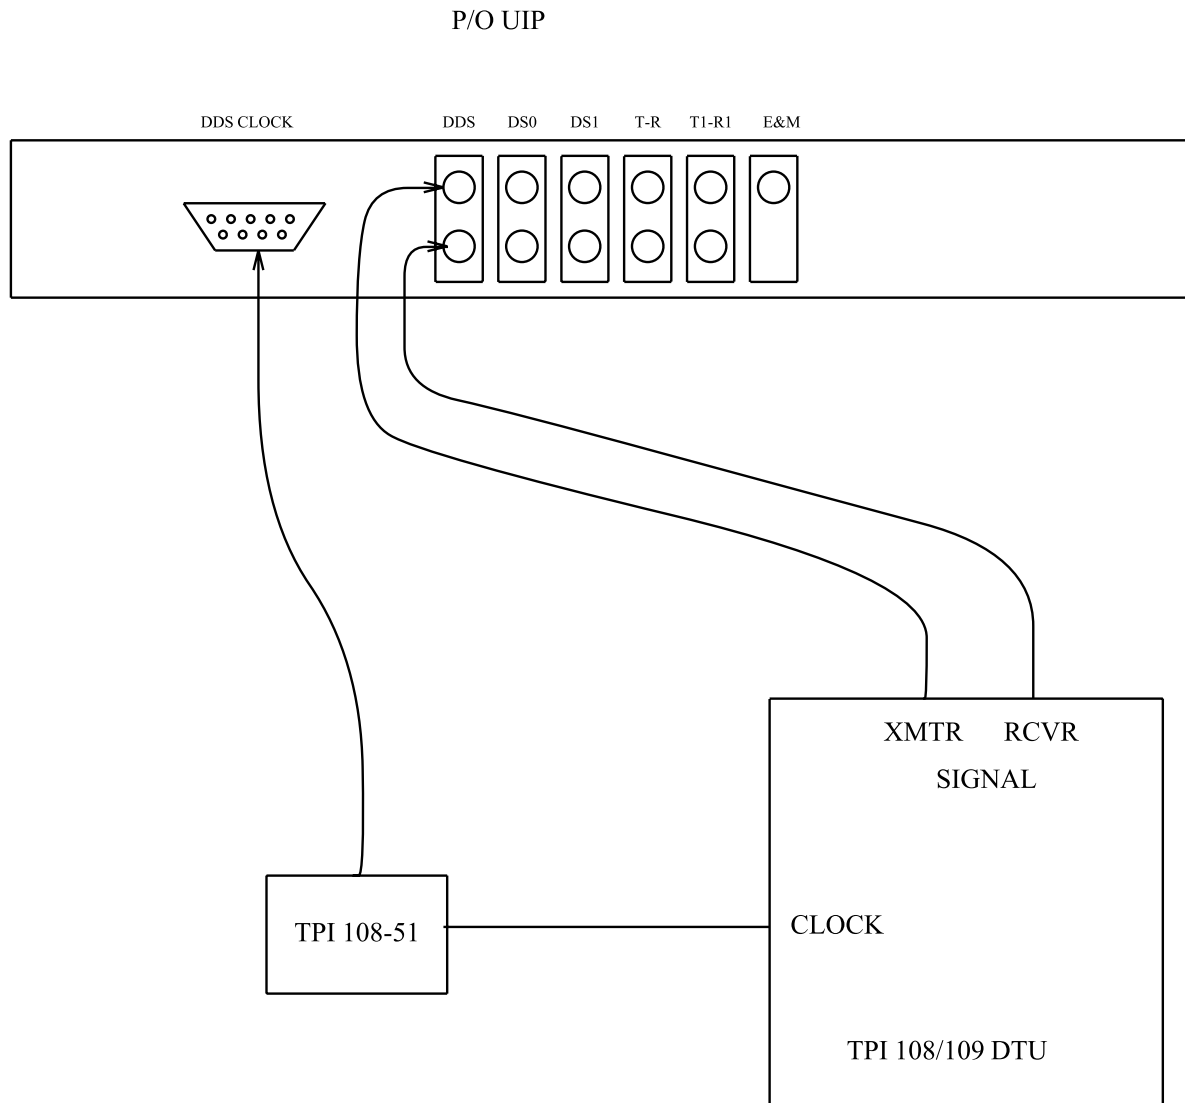
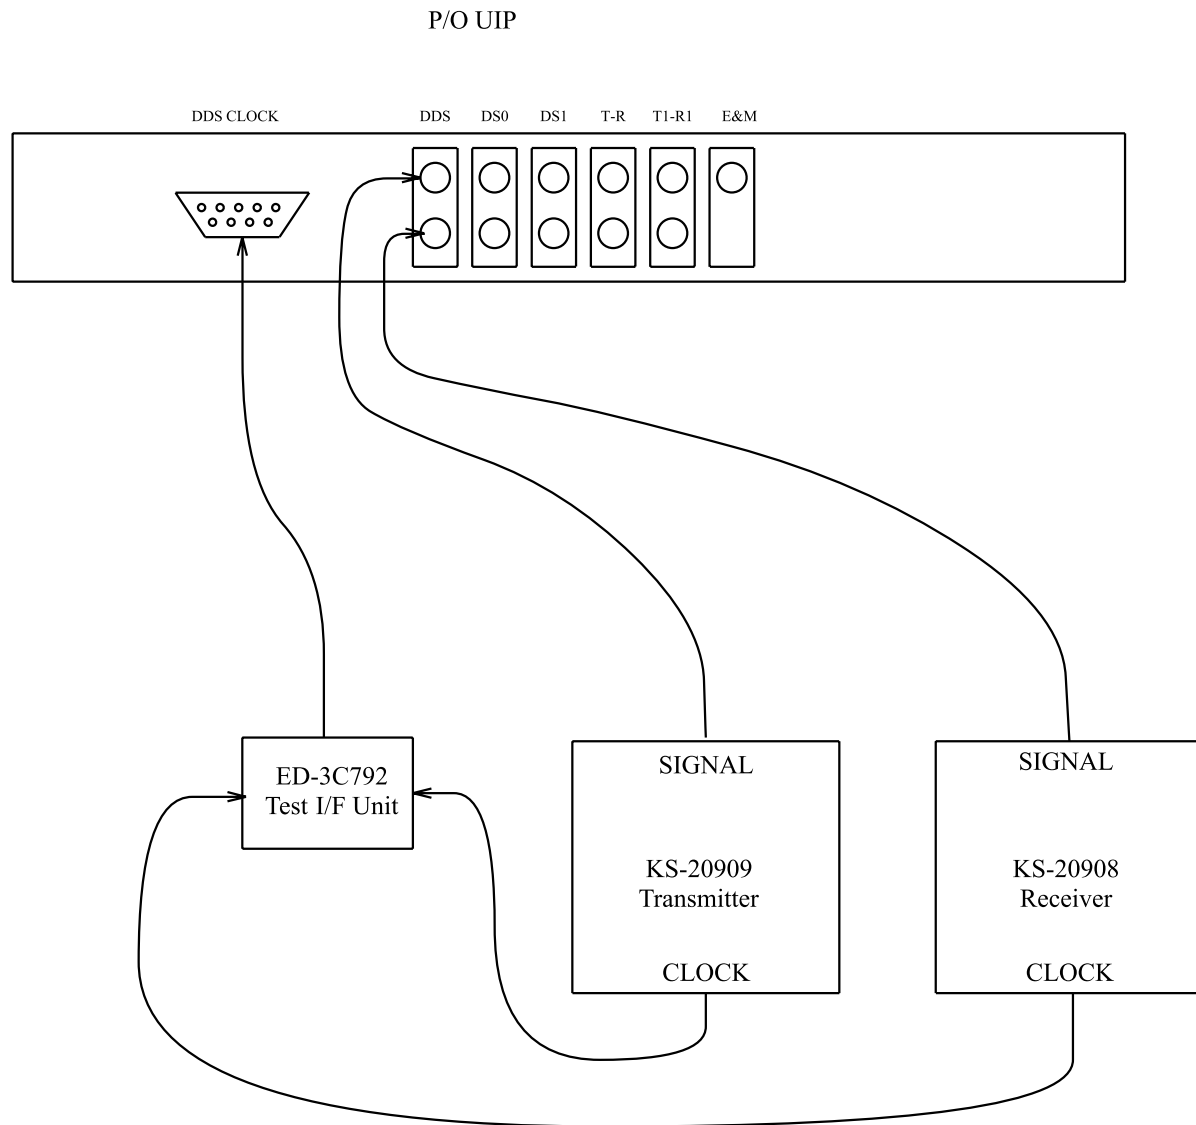

Figure 1 – Test Connections for OCU Loopback Test Using TPI 108/109 DTU
**Figure 2 – Test Connections for OCU Loopback Test Using
8. Connect the test equipment to the DDS clock and data test jacks of the UIP. Refer to Figure 1 for the TPI 108/109 DTU. Refer to Figure 2 for the KS-20908 receiver and the KS-20909 transmitter.